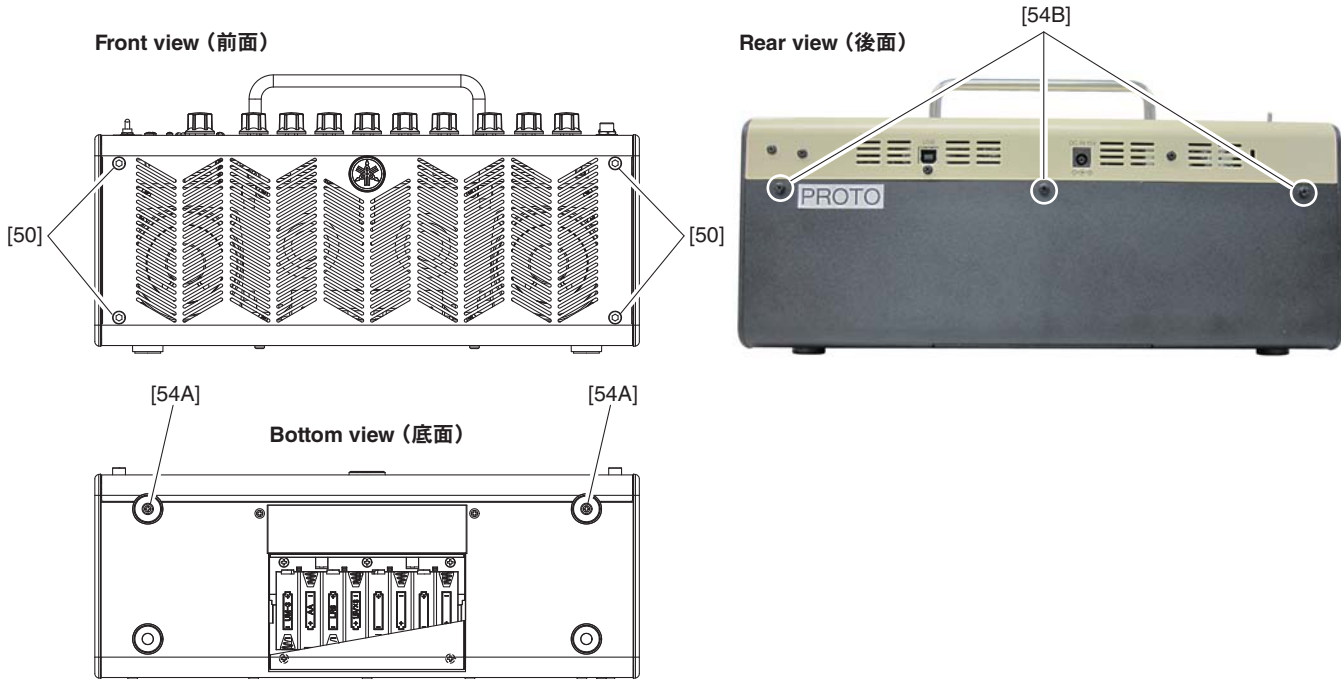

Fig. 1 (図 1)
- 1-1 Using an Allen hex socket screw driver (size: 4 mm), remove the four (4) screws marked [50]. Remove the two (2) screws marked [54A] and the three (3) screws marked [54B]. (Fig. 1)
- 1-1 六角レンチ (4mm) で [50] のネジ 4 本を外します。[54A] のネジ 2 本、[54B] のネジ 3 本を外します。(図 1)